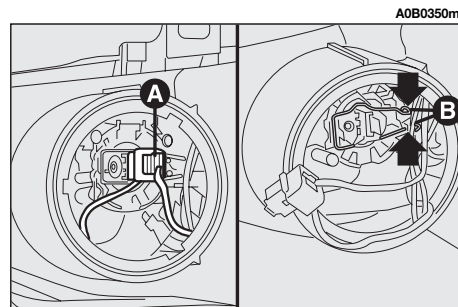

fig. 27
- Remove connector (**A-fig. 27**) and remove the bulb operating the clips (**B**) as shown in the figure.